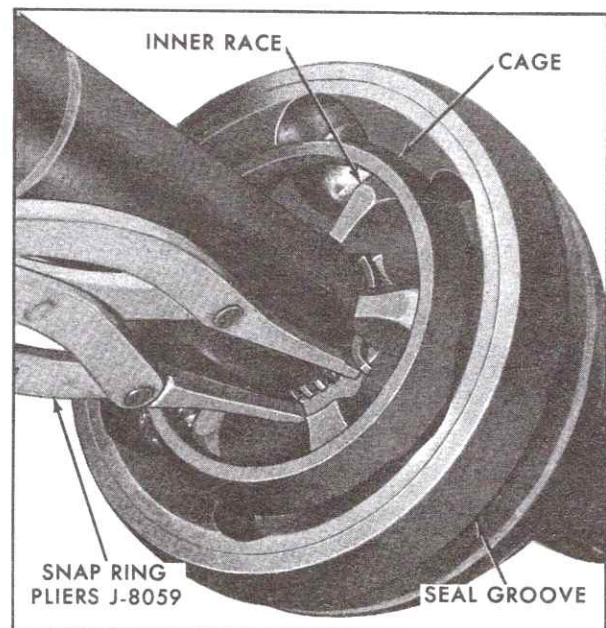

Fig. 3-50 Removing Outer Joint from Axle
4. Using Snap Ring Pliers, J-8059, spread snap ring and slide joint off axle spline as shown in Fig. 3-50.